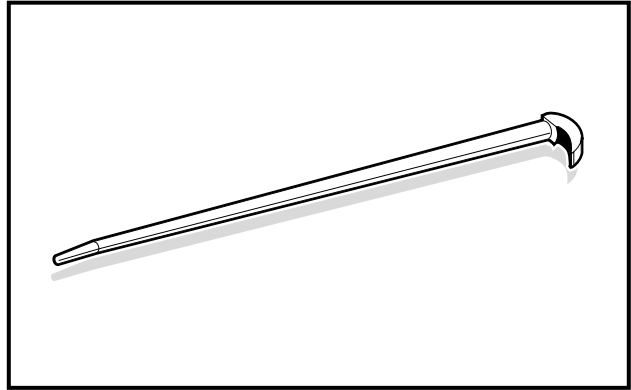
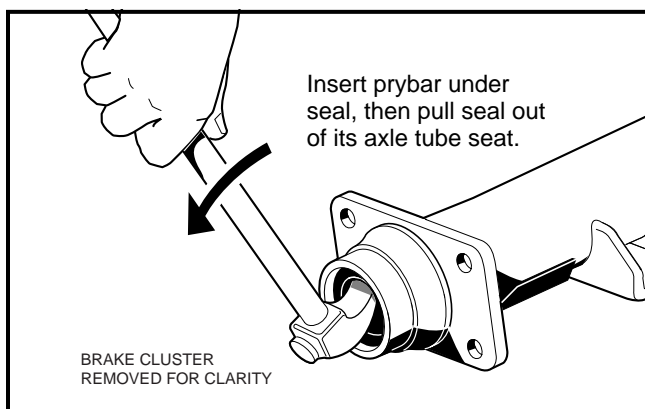

Figure 16-6 Rolling Head Prybar
Figure 16-7 Seal Lip
6. Use a 16 inch (40 cm) rolling head prybar (**Figure 16-6, Page 16-5**) to remove the oil seal. Insert the prybar under the seal and pull oil seal out (**Figure 16-7, Page 16-5**). **See following CAUTION.**